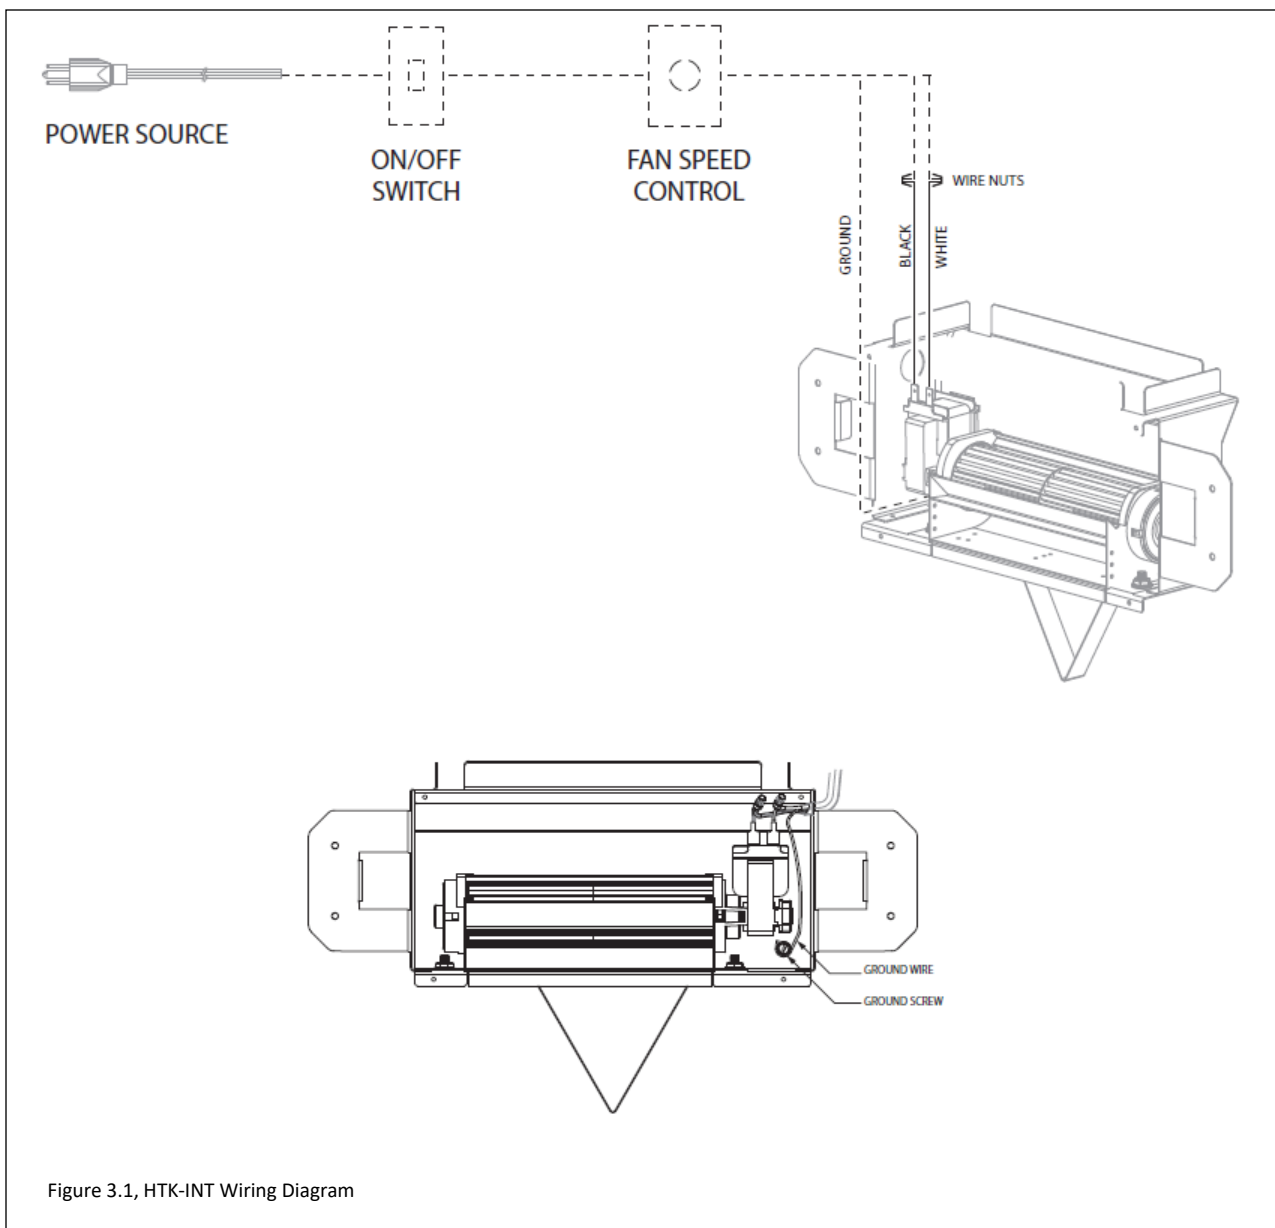

Figure 3.1, HTK-INT Wiring Diagram
- Figure 3.1 illustrates a typical wiring installation. Hard wire the fan to the electrical system.
- It is easier to access the ground screw if you remove the (2) flange nuts securing fan to the assembly and slide the fan forward.